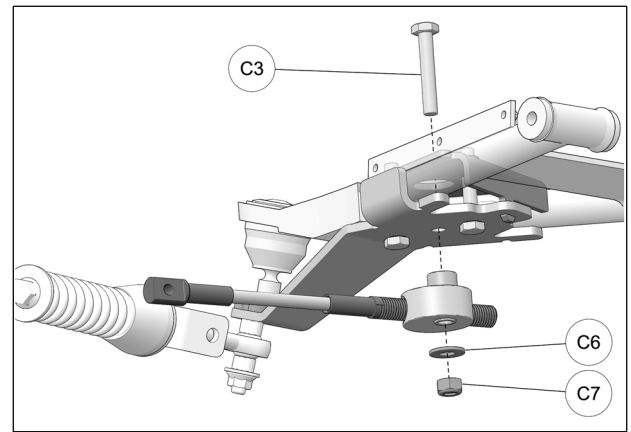

Fig. 24
12. Pass bolt (**C3**) through large hole made in the cover and insert it in the hole in the center of the anchor bracket. Slide steering limiter cable assembly up over bolt (**C3**) and use washer (**C6**) and nut (**C7**) to secure assembly to anchor bracket. Tighten nut to 50 N•m [37 lb•ft]. Refer to Fig. 24